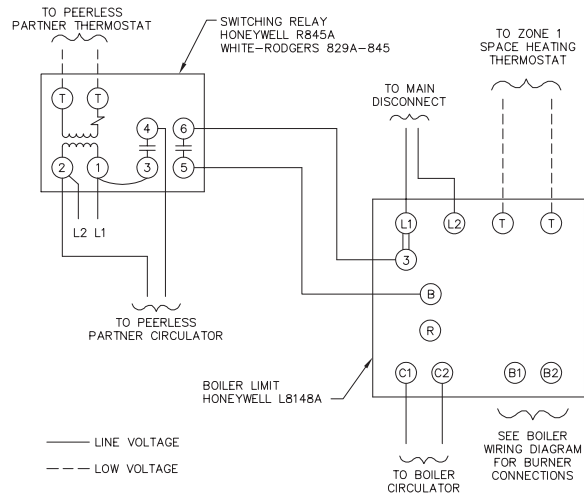

Figure 8: Wiring Diagram – WBV, EC and SC less Tankless
- c. WBV/EC/SC. Water less tankless heater. See Figure 8.